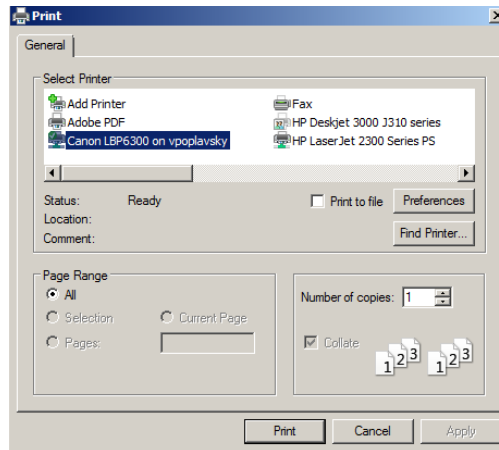

Figure 24 — Window of configuration of DFM i profile printing
3) Print profile. To print DFM i profile, press  button in **Horizontal menu**. In **Print** window that opens you may select the printer and configure printing parameters, if necessary (see figure 24).